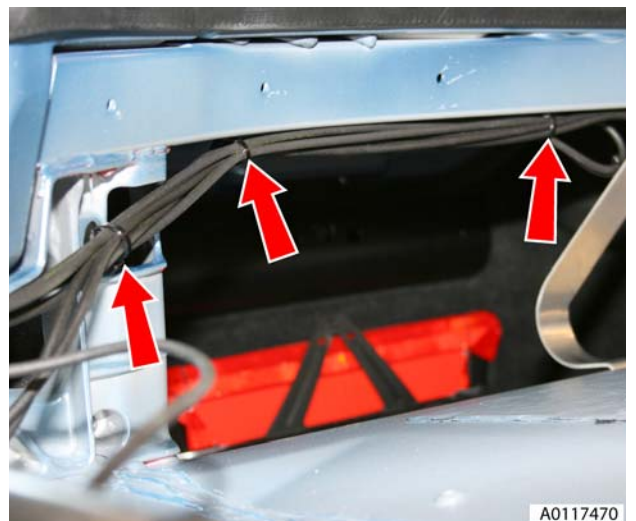

Figure 9
13. Remove pipe retaining clips (x3) RH (see Figure 9).